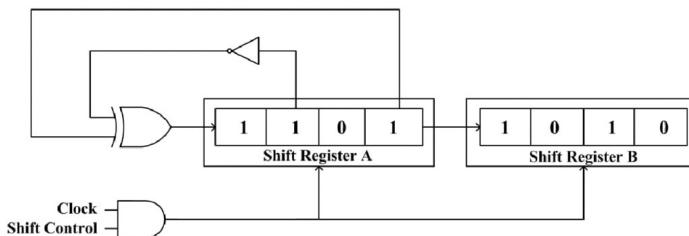

Fig. 5.11
11. In the circuit shifter in Fig. 5.11, the initial binary content of the shift register A is 1101 and that of shift register B is 1010. The shift registers are positive edge triggered, and the gates have no delay. When the shift control is high, which of the following are legitimate combinations of binary content of the shift registers A and B in any clock pulse? (GATE IN 2023)